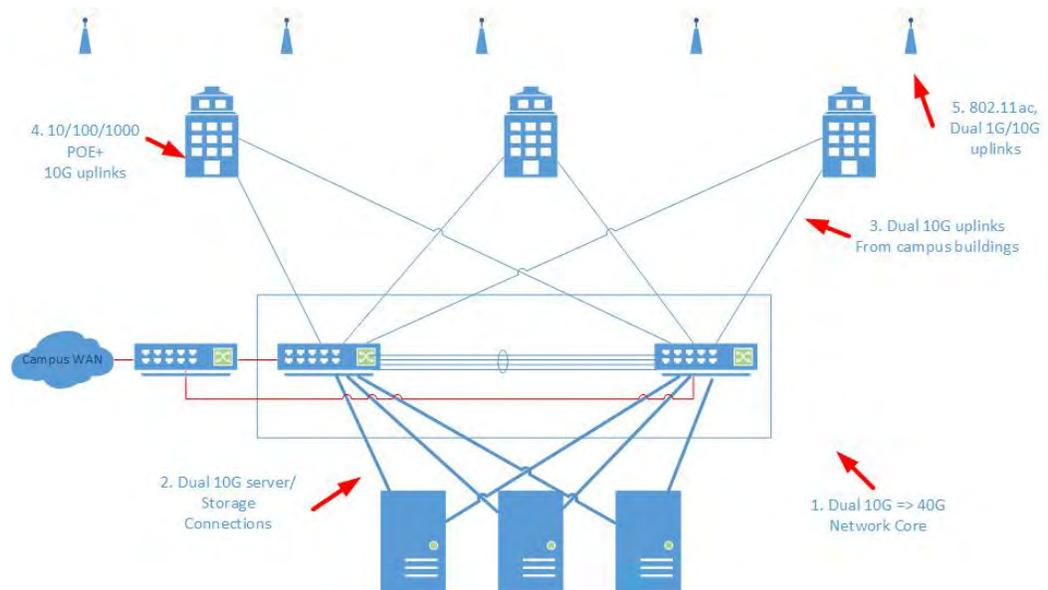

Figure 1- Reference Network Design
- 2) ***The reference design is shown in figure 1 – reference network design. Specifically, the design requirement includes but not limited to the followings:***